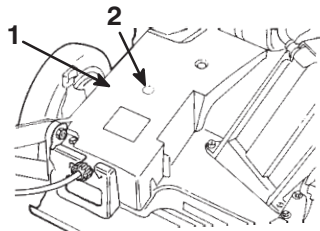

Figure 27
- Install a grease gun onto the fitting through the belt cover opening (Fig. 27).